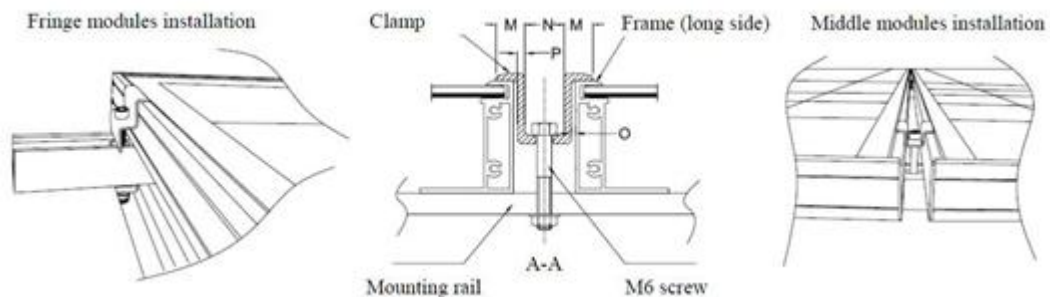

**Figure 3. PV module installed with Screw fitting method**
**Mounting with Bolts:** There are 4 mounting holes (Length\* Width: 14mm\*9mm) on the each panel frame to mount the modules on supporting structure. The module frame must be mounted on the mounting rail using M8 corrosion-proof screws together with spring washers and flat washers in four symmetrical locations on the module. The applied torque should be approximately 5 Newton-meters. Please find detailed mounting information as following figure 3.